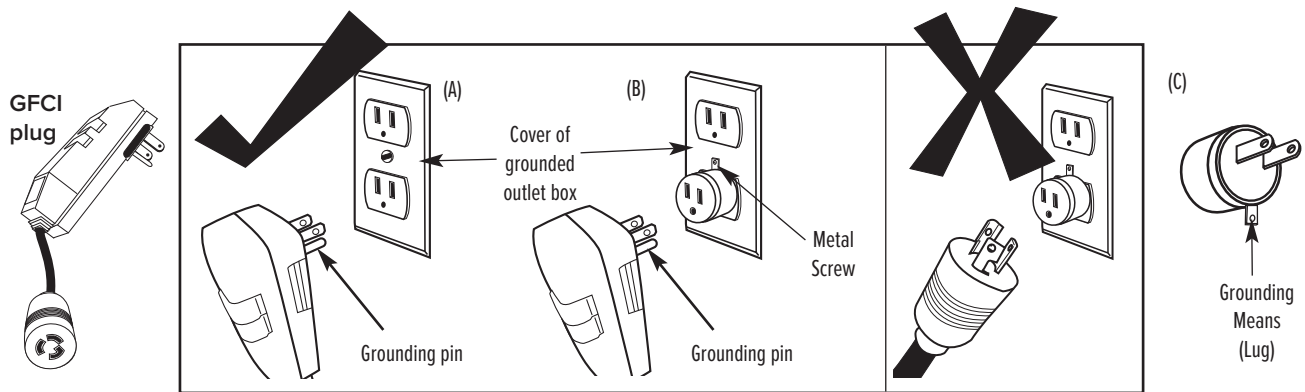

Figure 2
7. This saw is intended for use on a circuit that has an outlet that looks like the one illustrated in Figure 2. The GFCI plug used on the saw has a grounding plug that looks like the plug illustrated in Figure 2(A). A temporary adaptor, which looks like the adaptor illustrated in Figures 2(B) and 2(C), may be used to connect the GFCI plug to a 2-pole receptacle, as shown in Figure 2(B), if a properly grounded outlet is not available. The temporary adaptor should be used only until a properly grounded outlet can be installed by a qualified electrician. The green-colored rigid ear, lug, etc., extending from the adaptor must be connected to a permanent ground, such as a properly grounded outlet box.